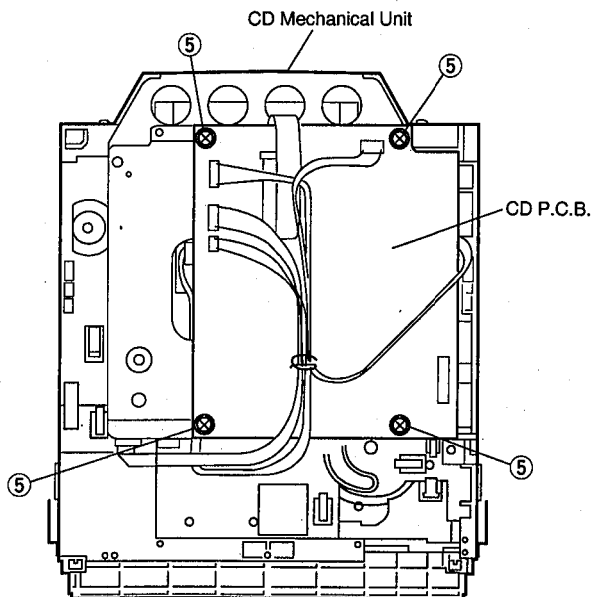

Fig. 4
- Remove 4 screws (⑤) and then remove the CD P.C.B. in Fig. 4.